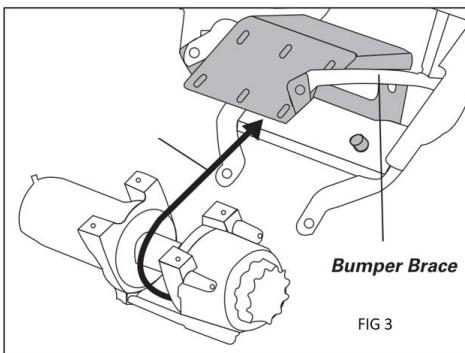

FIG 3
6. Turn the winch so its mounting holes face upward, then slide it into the bracket from below. Ensure the winch cable feeds out from the bottom (the side facing the mounting bracket). (Refer to Figure 3.) Line up the appropriate mounting holes and fasten the winch using the provided hardware.